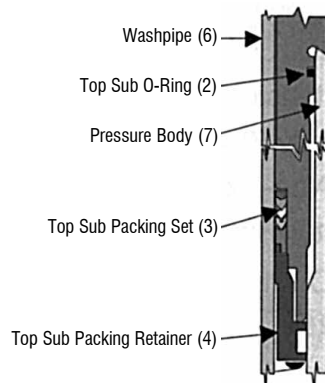

Figure 8-4: Top Sub Seal Installation
4. Top Sub (1): Install the Top Sub (1) Packing Set, as illustrated in Figure 8-4, into the ID of the Top Sub (1), which is the stencil groove end of the Top Sub (1). Install the Top Sub (1) Packing Retainer Ring into the Top Sub (1) to contain the Packing Set. Install the Top Sub (1) O-Ring in preparation for installation onto the main unit later in this procedure.